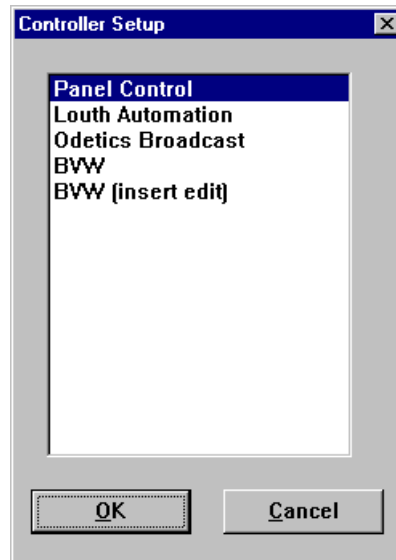

Figure 45. Controller Setup dialog box
2. Choose **Controller | Select** to open the Controller Setup dialog box (Figure 45).